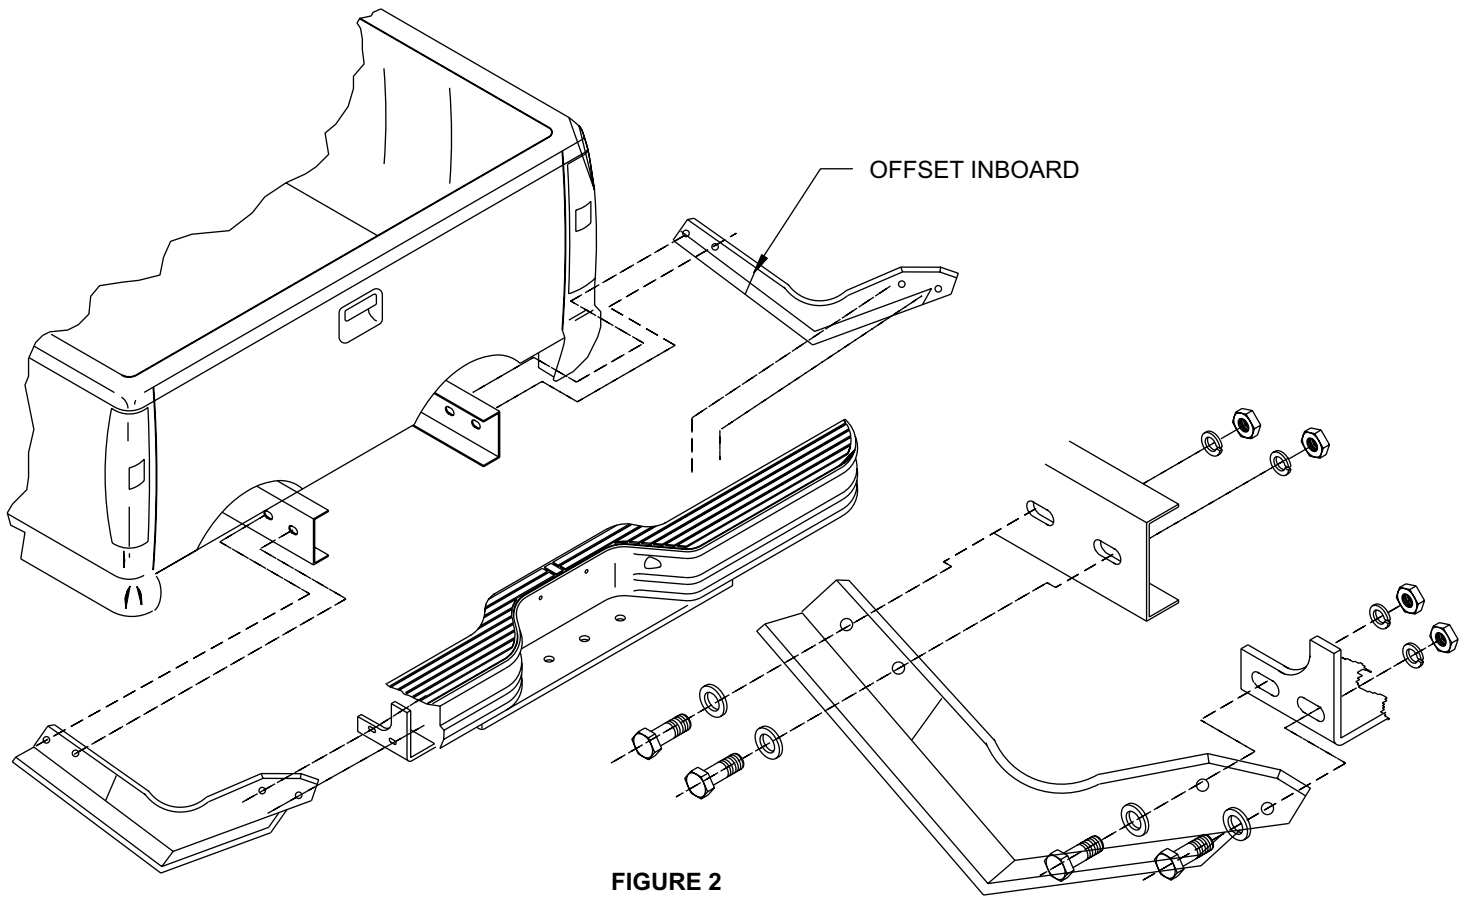

FIGURE 2
STEP 2: Install bumper onto mounting brackets with brackets outside of bumper hitch. See figure 2. Use remaining 1/2 inch hardware. DO NOT TIGHTEN.